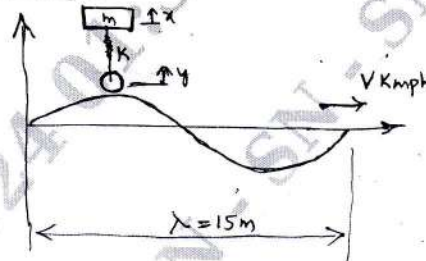

Fig. Q9 (c)
- c. Determine the critical speed when an automobile trailer is travelling over a road with sinusoidal profile of wavelength 15 meter as shown in Fig. Q9 (c) and amplitude of 75 mm. The spring of the automobile are compressed 0.125 m under its own weight. Also determine the amplitude of vibration at 50 kmph.